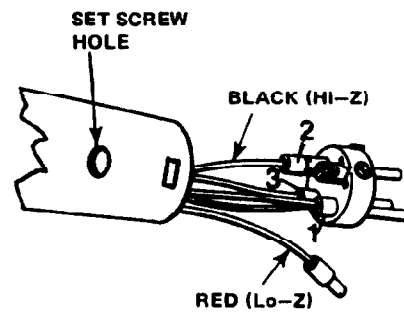

FIGURE 4
Rear connector insert (see Figure 4)
The US660/US660A output may be either balanced low impedance or high impedance. To select impedance: (1) Turn the setscrew in the connector insert counterclockwise. (2) Pull the insert out from the end of the microphone, exposing the wires which are connected to it (see Figure 4). For high impedance, be sure that the black wire is attached to Pin 2 of the connector insert (a small connector sleeve slides over Pin 2 to assure firm connection). For balanced Low-Z (150 ohms) remove the black wire from Pin 2 and attach the red wire to Pin 2 by means of the sleeve type connector provided (see Figure 4).